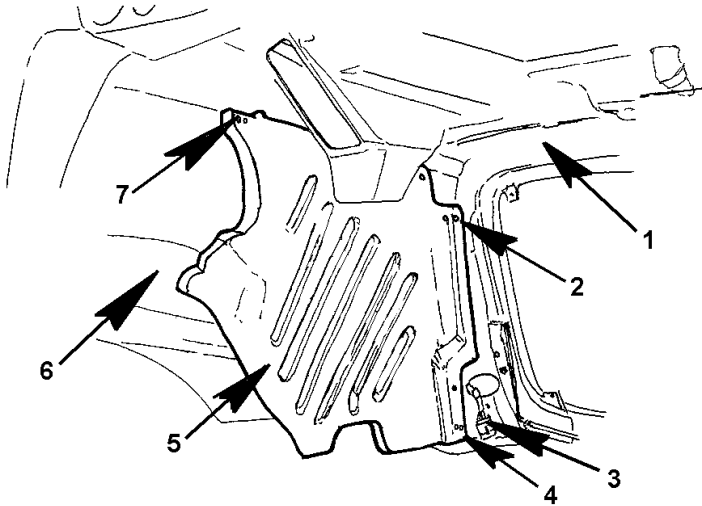

Figure 29 Splash Panel Removal (Driver Side Shown)
1. Tilt the hood assembly forward and locate the splash panel mounting bolts (Figure 29, Item 4) at the forward lower section of the splash panel. Loosen and remove the splash panel mounting bolts.
2. Locate the forward upper splash panel mounting bolts (Figure 29, Item 2). Loosen and remove the mounting bolts attaching the splash panel to the upper section of the hood assembly.
3. Locate the rear splash panel mounting bolts (Figure 29, Item 7), loosen and remove.
3. Align the lower mounting holes with the inner fender section (Figure 29, Item 7).